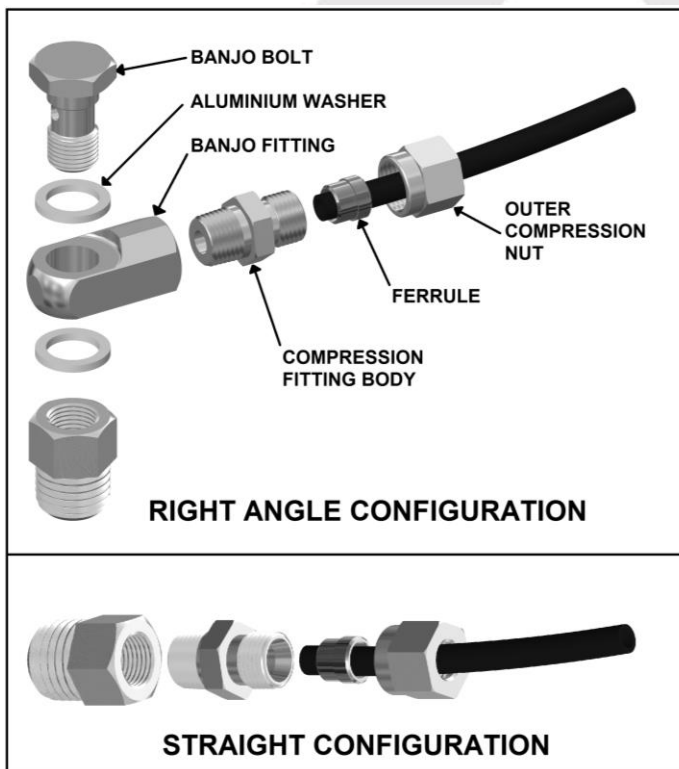

Figure 22.
- ☐ Assemble an aluminium washer onto the banjo bolt and insert through the banjo fitting. Assemble second aluminium washer and tighten into bulkhead fitting using a 14mm [9/16"] spanner. (Fig.22.)
- ☐ Insert the outer compression nut and ferrule over the air line. Ferrule should be orientated as per Fig.22.
NOTE : When right angle routing of the tube is not required, screw the compression fitting body straight into the bulkhead fitting body (Fig.22.).